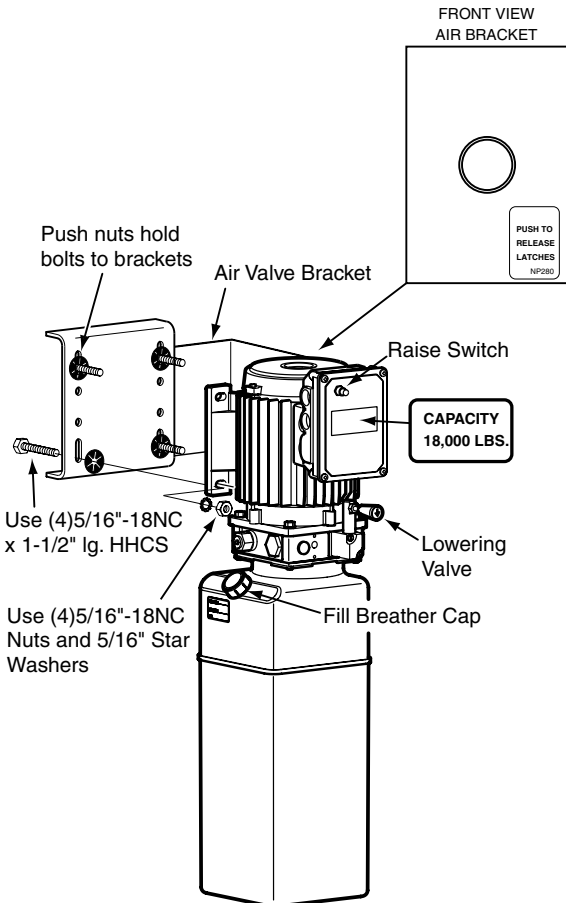
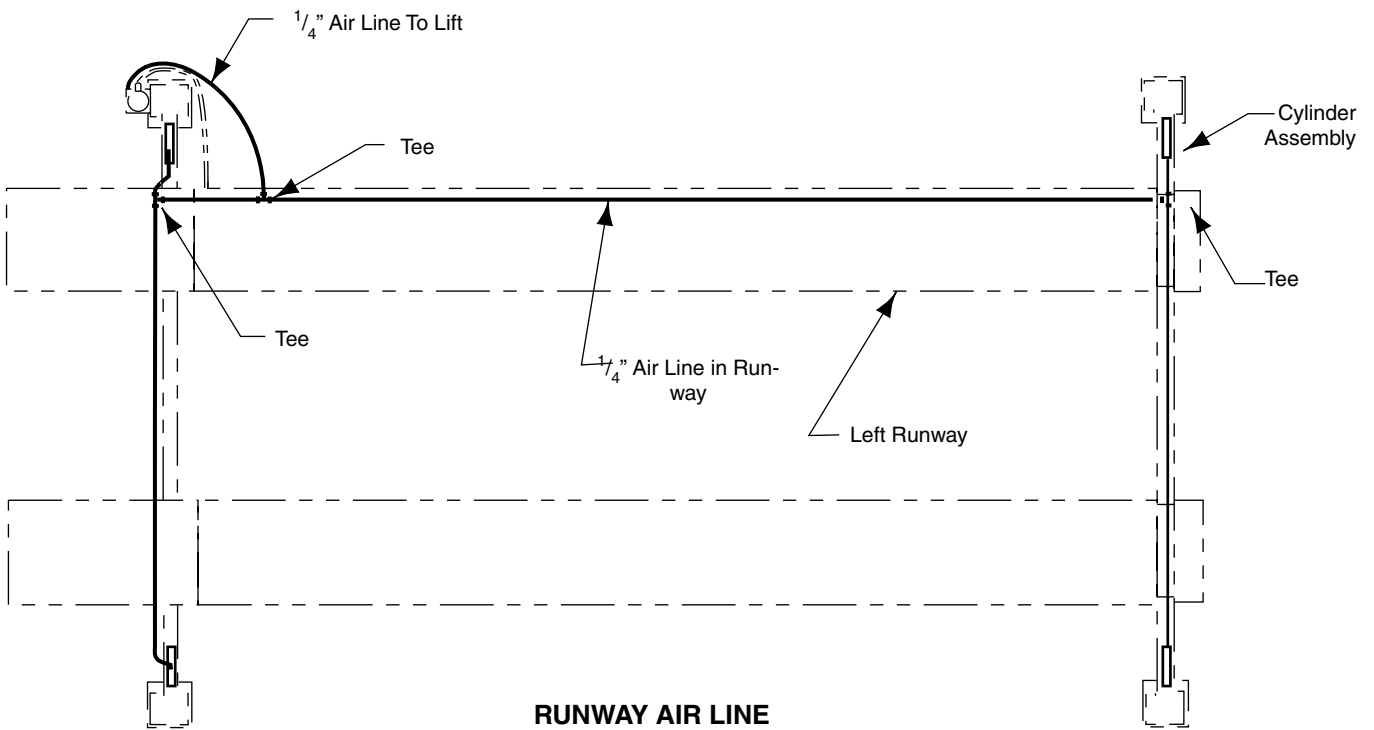

Fig. 17 **MOUNTING AIR VALVE BRACKET**
Fig. 26
A. Align Latch Release Air Valve Bracket with holes in right side of Column Bracket. Put four 5/16" x 1 1/2" hex bolts through holes in Air Valve Bracket and Column Bracket, using push nuts to hold in place, Fig. 17.
D. Attach enclosed NP280 decal (ACTUATE TO RELEASE LATCHES) below button on air valve bracket, Fig. 17. Run 1/4" air line from air valve to the slot in the fixed runway. Cut airline and attach a Tee, Fig. 26.
E. Run 1/4" air line from the Tee of the runway grommet through the guide tubes on the inside wall of the runway to the Tee in the front yoke, Fig. 26.